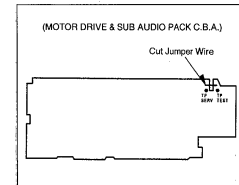

Fig. M1
- Connect a jumper wire (K2501) which has been out as shown in Fig. M1.